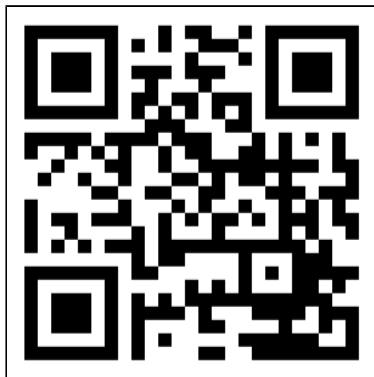

Figure 21.
1. Open the Eurom Smart App manual with the QR code (Figure 21) or go to [www.eurom.nl/nl/manuals](http://www.eurom.nl/nl/manuals).